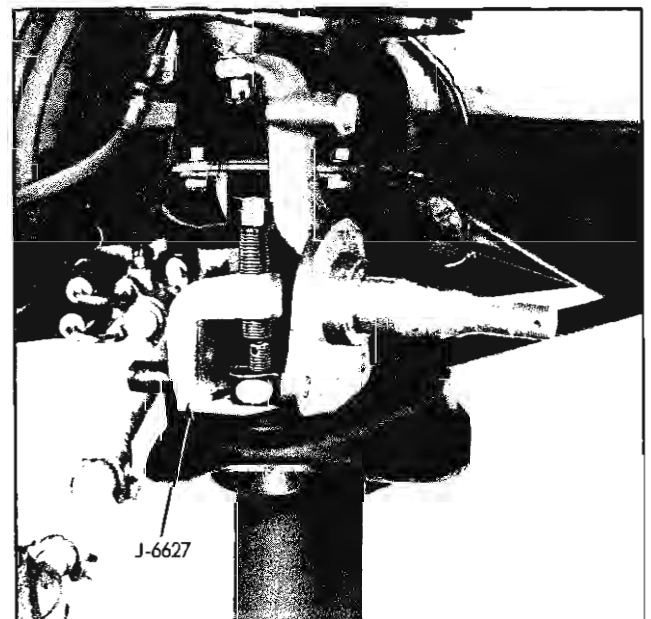

Fig. 3-18 Removing Lower Ball Stud
Place stand under control arm (Fig. 3-18). Take up slightly on spring compression.
5. Remove lower ball stud from steering knuckle with J-6627 (Fig. 3-18).